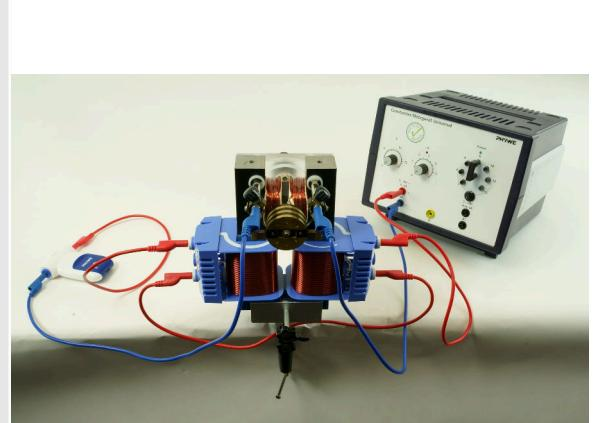
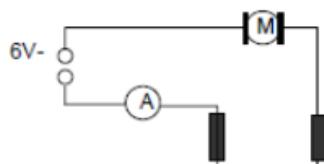

Fig. 2
Fig. 3
- Complete the set-up according to Fig. 2 and Fig. 3.
If an [ ] is used to operate an [ ], it must generate a sufficiently large [ ] in the vicinity of the armature. Therefore, a U-shaped iron core with two field coils is used, between whose poles the armature runs. The [ ] and field coils are connected in [ ] in a main shunt motor (Fig. 3).